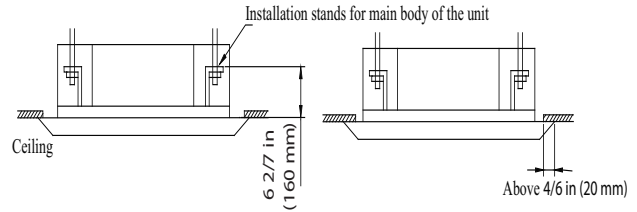

Fig. 6 — Drilling holes
2. Adjust the unit to the suitable install place. Refer to Fig. 6.